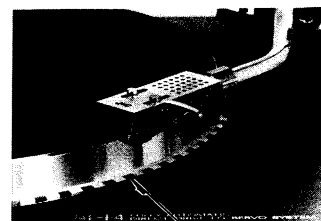

Fig. 31
10-(3) Overhang Adjustment (Fig. 31)